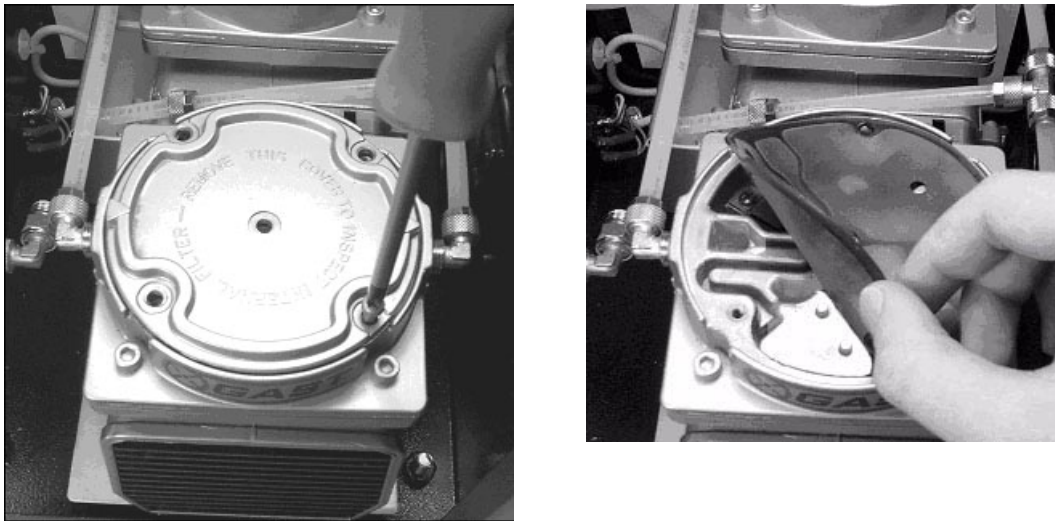

Figure 6.2. Replacing pump membranes, step 1 and 2.
1. Remove the five screws holding the top lid, see the left part of figure 6.2.
2. Remove the old gasket as shown in the right part of figure 6.2. Note the orientation of the holes, and make sure the new gasket ends up in the same position.